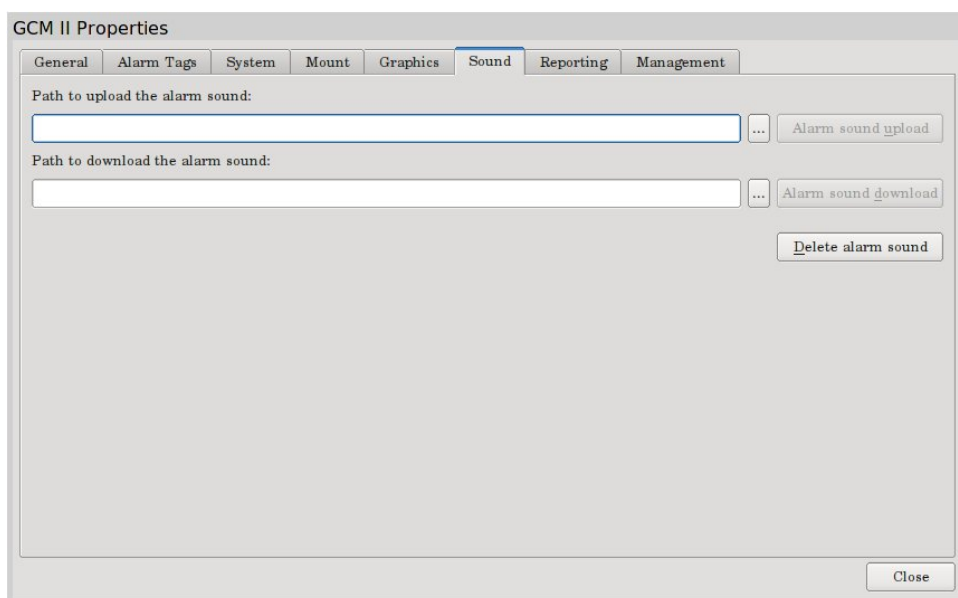

Figure 28 – Sound
Selecting the “Sound” tab will open the screen as shown in Figure 28. This tab is used to upload or download a custom sound that will be used when an alarm on the system occurs. The system will support only one sound in a *.wav or *.mp3 format and the system has one (1) default sound. *Note: be sure the drive has been correctly mounted as stated in Section 5.2.4.*
If the alarm sound needs to be deleted, select the “Delete Alarm Sound” button as shown in Figure 28.